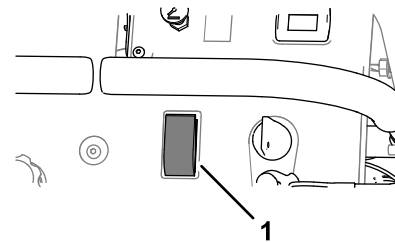

Figure 43
9. Set the sprayer-pump switch to the ON position (Figure 43).